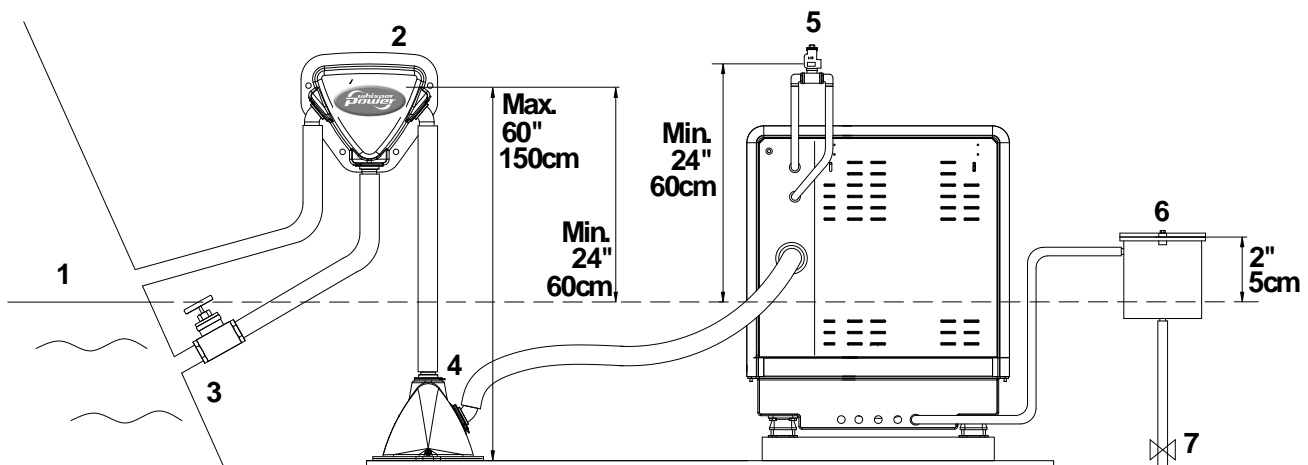

Fig. 8. Internal cooling system
Install the water strainer in a well accessible position, (refer to fig. 8, ref. 6) 5 cm above the waterline.